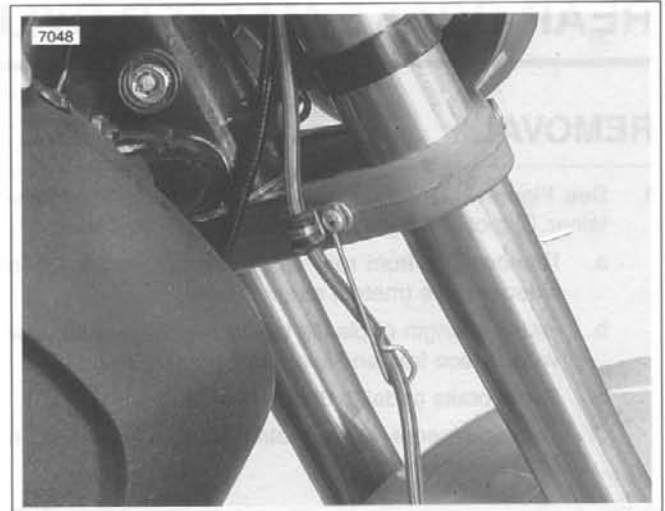

Figure 2-76. Lower Triple Clamp
2. See Figure 2-76. From the master cylinder, the brake line runs downward in front of the right handlebar, where it turns inboard at the upper triple clamp. Loosely install clamp and wire guide (5) with screw (4) to attach front brake line clamp to right side of lower triple clamp. Route brake line through wire guide as shown in Figure 2-76.
4. See Figure 2-76. Tighten clamp screw on lower triple clamp to 30-35 **in-lbs** (3.4-4.0 Nm).